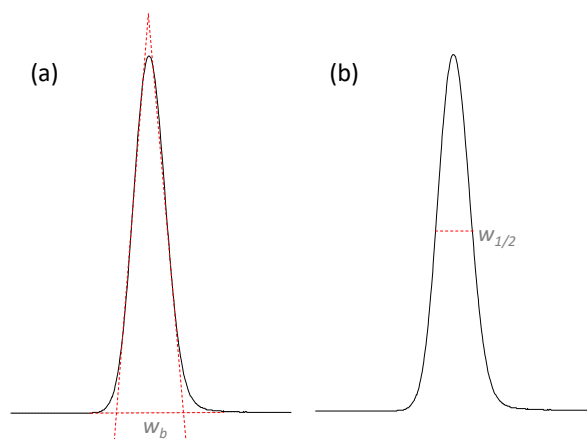

Figure 1 Position of  $W_b$  with inflection lines (used in Eq. 1) and  $W_{1/2}$  used to measure resolution (used in Eq. 2).
In practical terms, resolution is regularly measured using Equation 1 or 2, although there are many different variations available. The two displayed are the approved methods determined by the (Eq. 1) United States Pharmacopeia (USP) and (Eq. 2) European Pharmacopeia (EP). The two differ by the position the width measurement is taken (Figure 1) and the adjustment factor associated with that width. These values can often be calculated using LC software, however, it is important to know which calculation is being used. Within LabSolutions, Equation 1 is set as standard, however, it also allows the user to define which method they would like to use for their analysis. As resolution is related to the retention time and width, the value of resolution can be increased by increasing the peak spacing between the two peaks, or by decreasing peak widths to have narrower peaks.